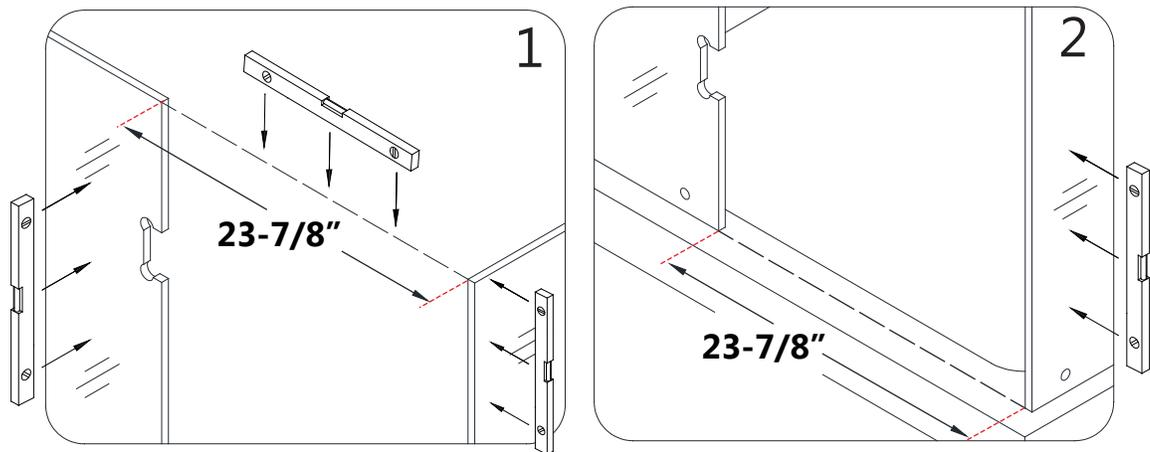

Fig 3
3. The distance between the **Hinge Panel Glass (#01)** and the **Return Panel Glass (#03)** must be **23 7/8"**. This is the required spacing for the **Door Glass (#02)**. Adjust the position of the **Return Panel Glass (#03)** as necessary to maintain this **23 7/8"** dimension. (**Fig 3**)